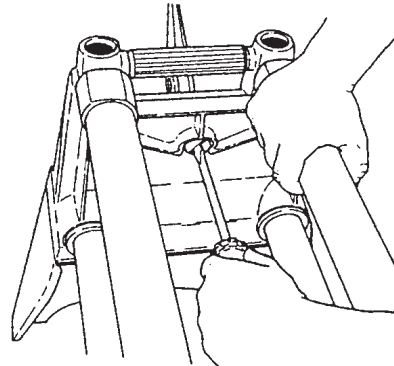

Figure B-44
1. To check the headrest lock, grasp the way tubes near the tie bar and pull up, as demonstrated by the right hand in Figure B-44.
2. If there is "give" in the lock, unlock the handle and use a medium Phillips screwdriver to turn the lock shaft **clockwise**, as done by the left hand in Figure B-44. If the lock is difficult to operate, the shaft is too tight. To loosen, unlock the handle and turn the shaft **counterclockwise**.